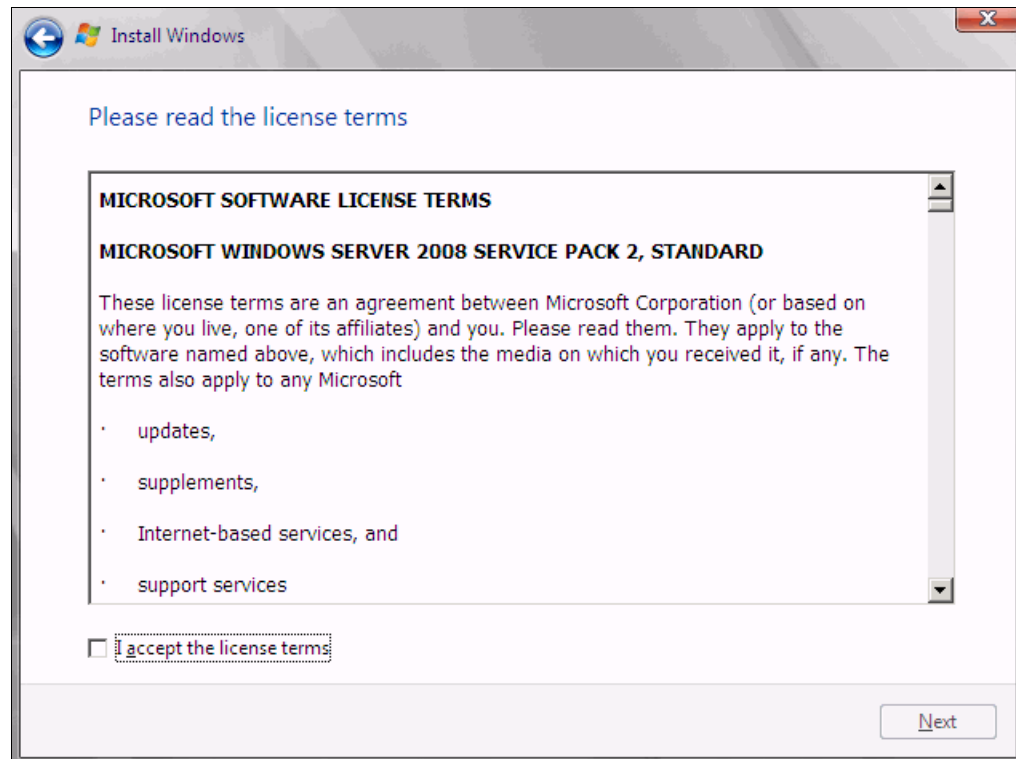

Figure 9-217 The license agreement panel
5. Read the license agreement, select **I accept the license terms**, and click **Next** (Figure 9-217).